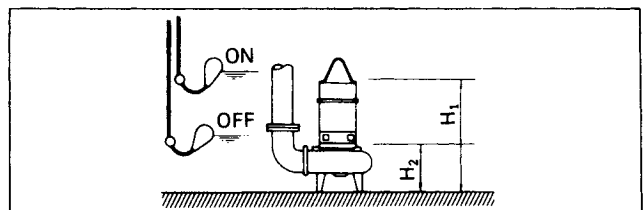

Fig. 2
8. These pumps do not have an automatic operating system based on built-in floats. Do not operate the pump for a long time with the water level near the minimum operating level as the automatic cut-off switch incorporated inside the motor will be activated. To avoid dry operation, install an automatic operating system, as shown in Fig. 2 and maintain a safe operating water level.